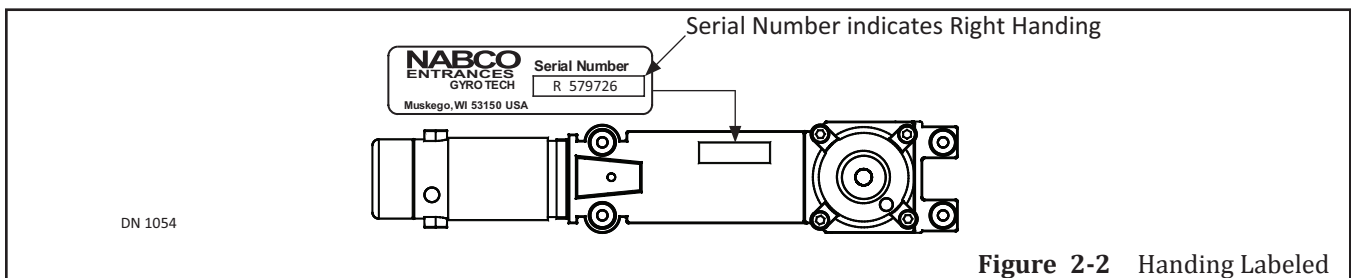

Figure 2-2 Handing Labeled
- ▶ To Determine Handing from the Operator: locate the Serial Number underneath Operator. Please see Figure 2-2.
- The Letter (L) or (R) located in front of the Serial Number indicates the Handing.